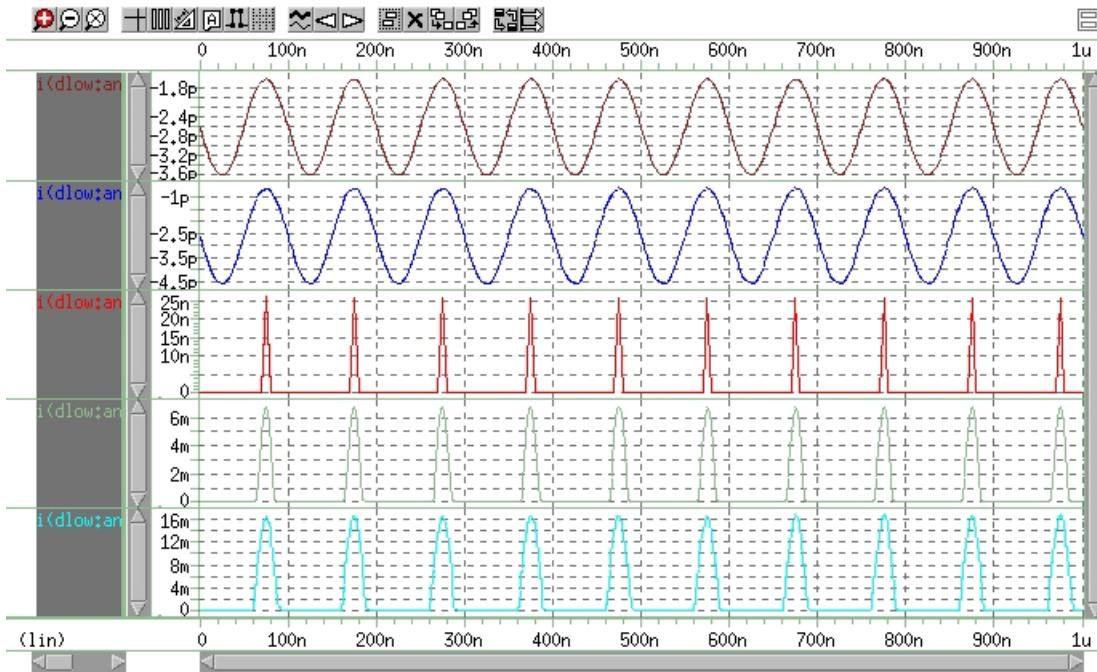

Figure 202 Plot of Current through Diode dlow vs. Time
12. Click the ungroup panels icon ()on the WaveView panel tool bar to display a plot similar to the one shown in Figure 202 on page 1016.